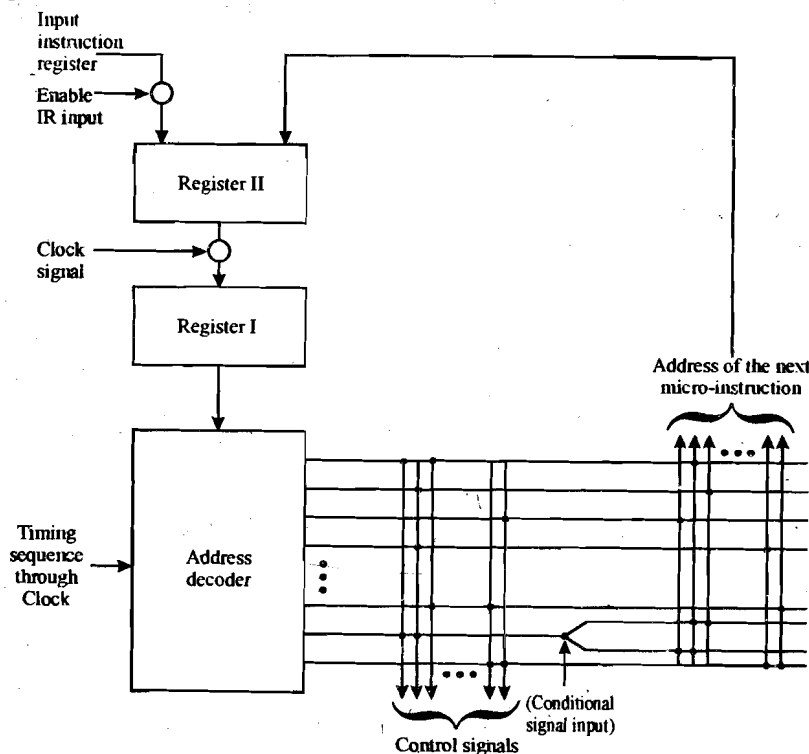

Figure 4: Wilkes Control Unit
The figure 4 below is an example of Wilkes control unit design.
3. What will be the control signals and address of the next micro-instruction in the Wilkes control example of Figure 4, if the entry address for a machine instruction selects the last but one (branching control line) and the conditional bit value for branch is true?